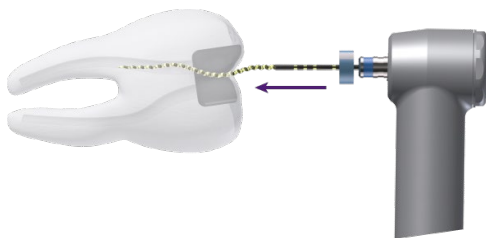

Figure 1
- Insert the shaping file **XP-4D® STANDARD** into the canal until resistance (Fig. 1), retract (tip loose) and start the motor.